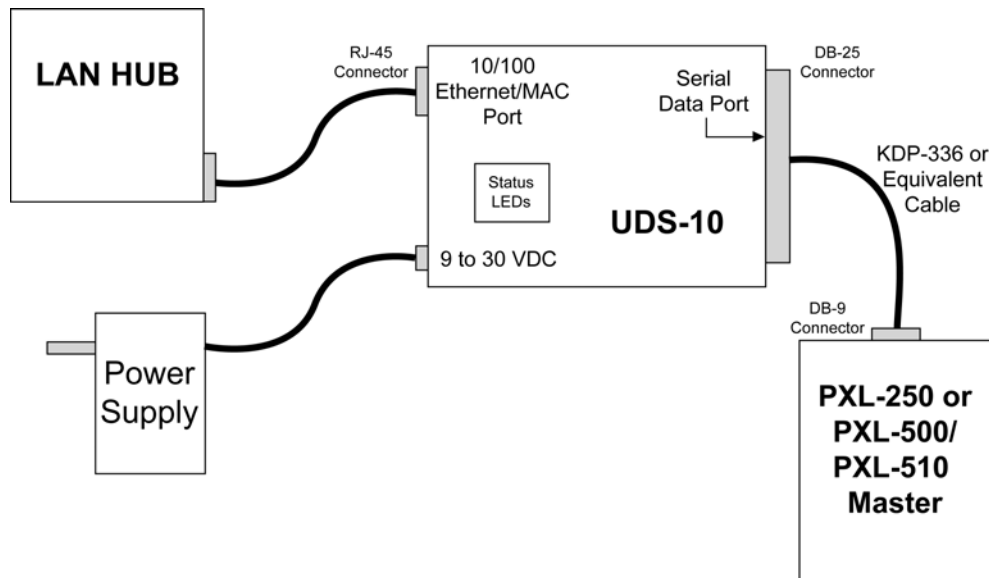

Figure 2: LAN-50 Connection Diagram
3. Connect the power supply's 12 VDC power jack to the power connection on the LAN-50. Plug the power supply into a 110 VAC socket (see Figure 2).